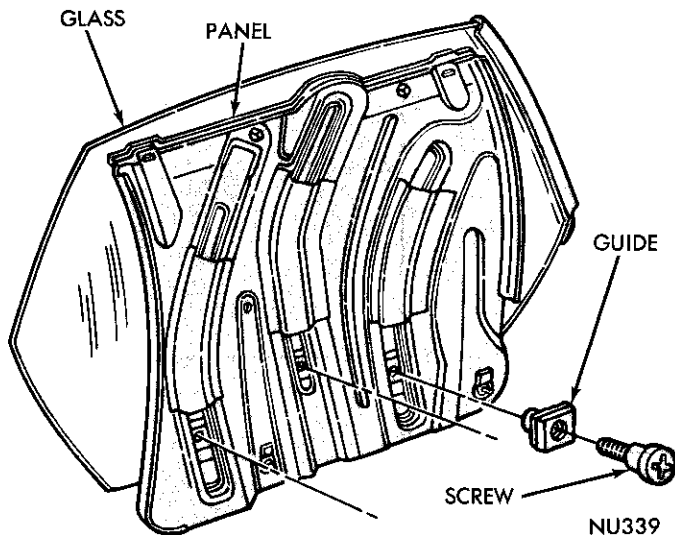

Fig. 65—Track Panel Stabilizer Guides
(8) Place track panel and glass assembly on a protected surface with the glass facing downward.
(9) Remove track stabilizer guide screws (Fig. 65) and remove guides from track panel.